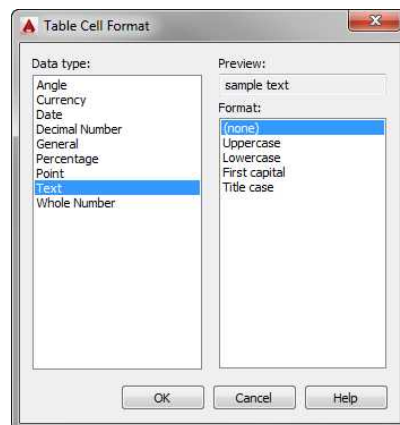

FIGURE 9.61: Changing the data format in the Table Cell Format dialog box
9. Set Text Height to 6" (152). Leave Text Color and Text Angle at their default settings.
10. Switch to the General tab, and click the ellipsis button at the end of the Format row. In the Table Cell Format dialog box, change Data Type to Text and change Format to (None), as shown in Figure 9.61. Then click OK.